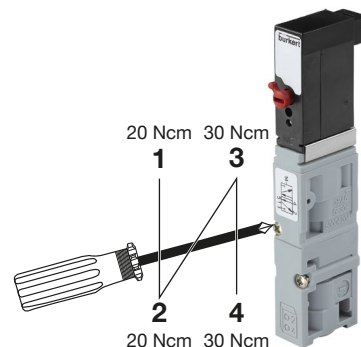

Fig. 17: Tightening the screws when replacing the valve
- Tighten the fastening screws in diagonal pairs while observe the permitted tightening torque (see “Fig. 17”).